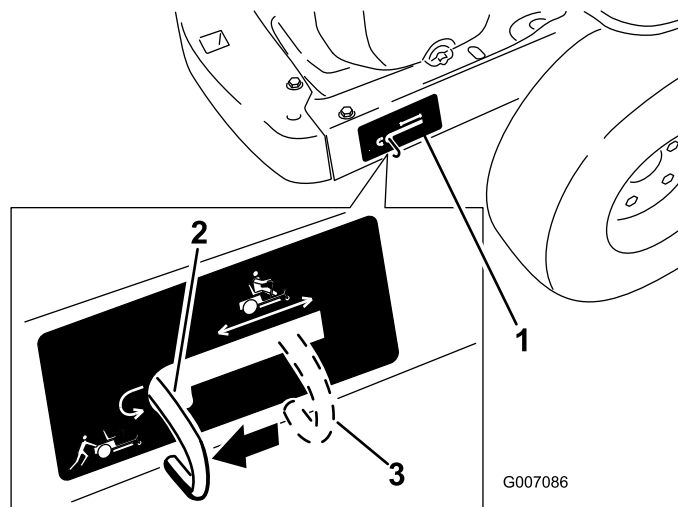

Figure 21
4. Move the bypass levers rearward and then down to lock them in place as shown in Figure 21 to disengage the wheel motors. Repeat this on each side of the machine.
Move the bypass levers upward and push them forward, to the **middle** of the horizontal slot (Figure 21) to engage the wheel motors.